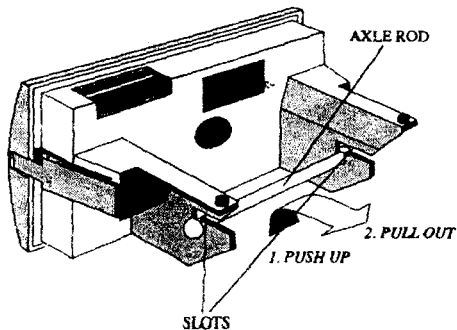
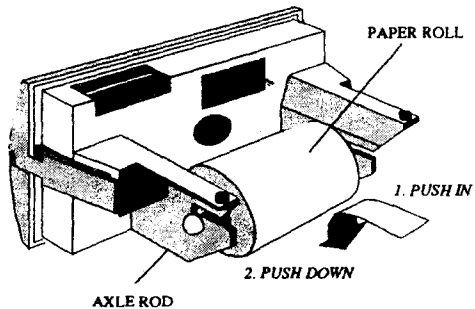

Fig. 2-8. Remove Axle Rod
Fig. 2-9. Replace Axle Rod and Paper Roll
4. If a roll has not been installed, remove the Axle Rod (Figure 2-8); slide on Paper Roll; and replace loaded Axle Rod in slots (Figure 2-9).